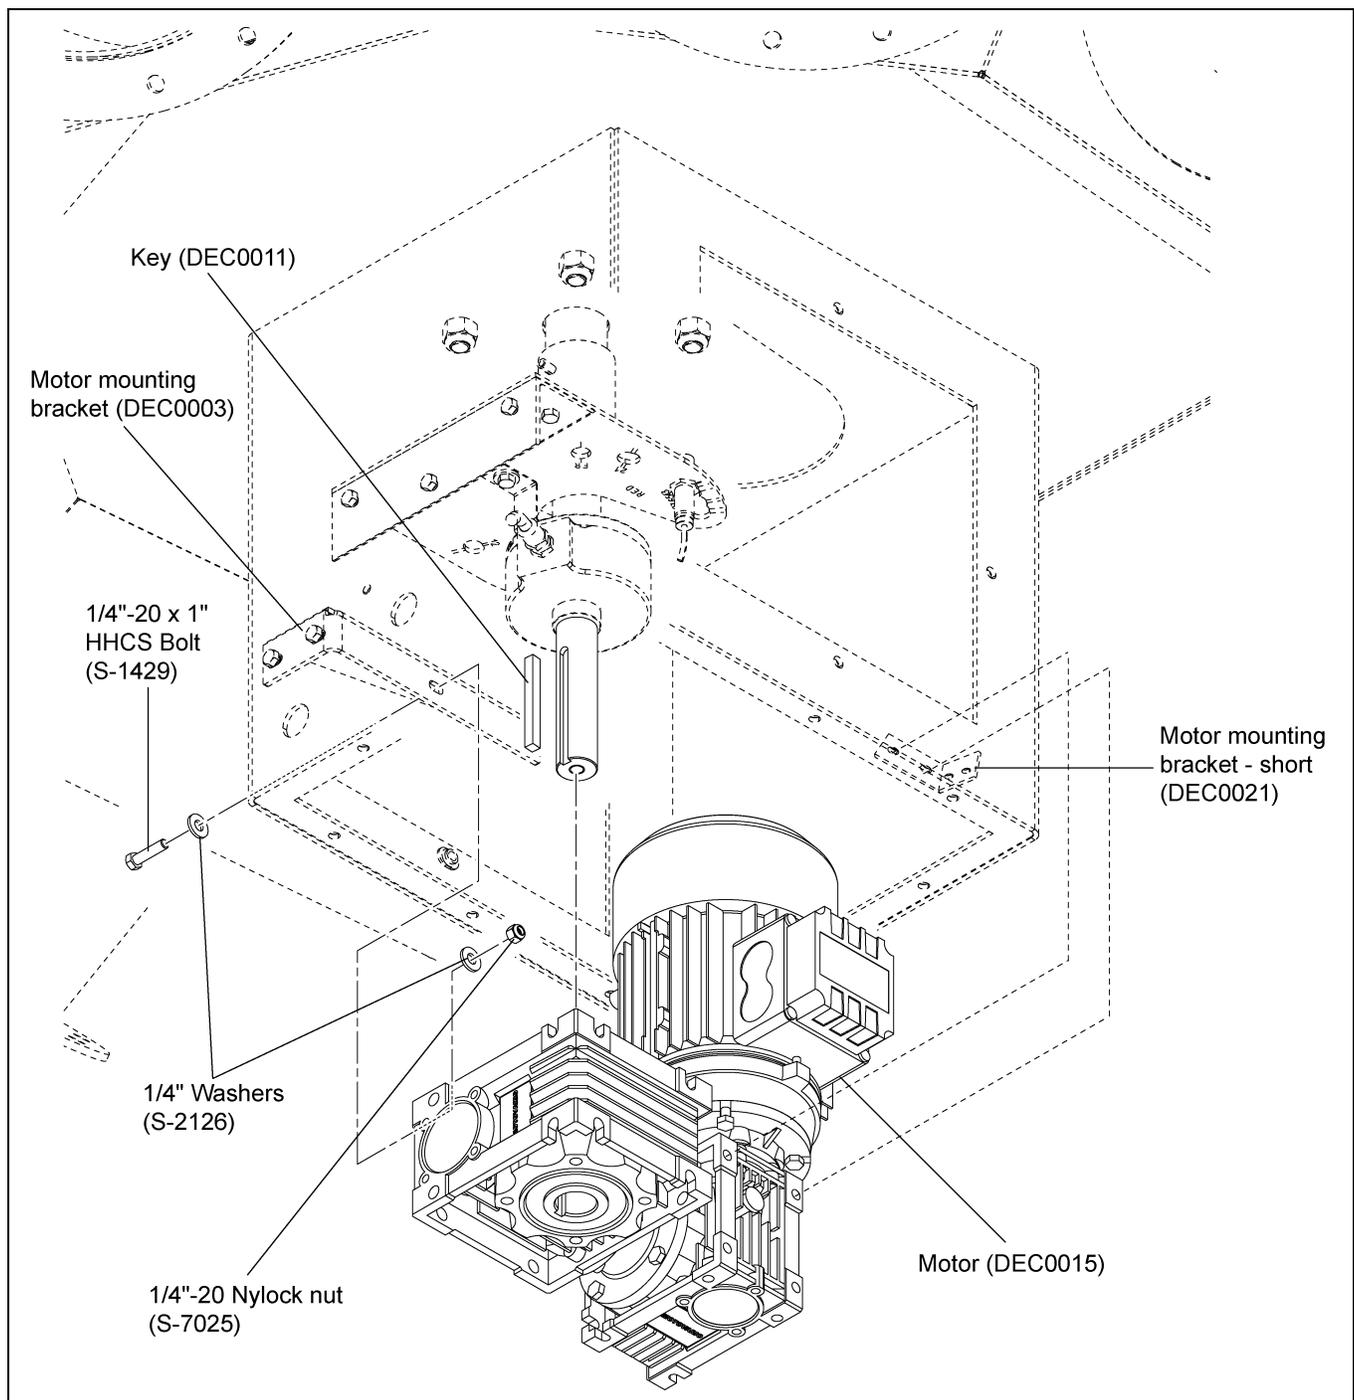

Figure 3L Control Motor Installation
Install the motor (DEC0015) to the motor mounting bracket (DEC0003) using two (2) 1/4"-20 x 1" HHCS bolts (S-6998), four (4) 1/4" washers (S-2126) and two (2) 1/4"-20 nylock nuts (S-7025) as shown in Figure 3L.
Install second motor mounting bracket (DEC0021) to the enclosure (DEC0005) using two (2) 1/4"-20 x 3/4" HHCS bolts (S-1429), 1/4" washers (S-2126) and 1/4"-20 nylock nuts (S-7025). Then install the motor to the motor mounting bracket (DEC0021) using two (2) 1/4"-20 x 1" HHCS bolts (S-6998), four (4) 1/4" washers (S-2126) and two (2) 1/4"-20 nylock nuts (S-7025) as shown in Figure 3L.